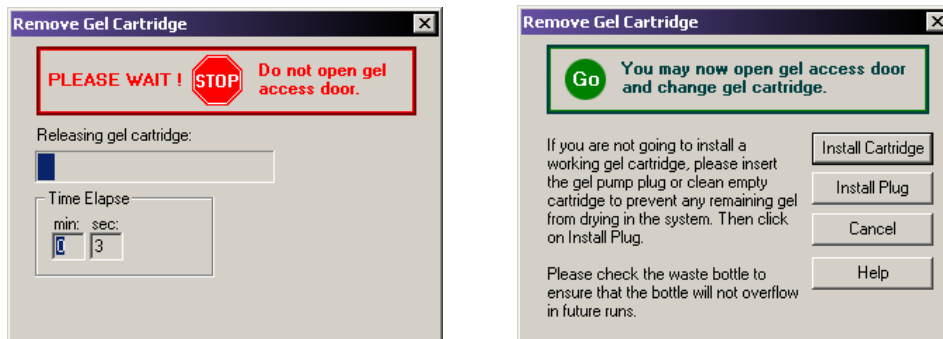

Figure 3.50 Remove Gel Cartridge Dialog Box
10. In the Remove Gel Cartridge dialog box (Figure 3.50):